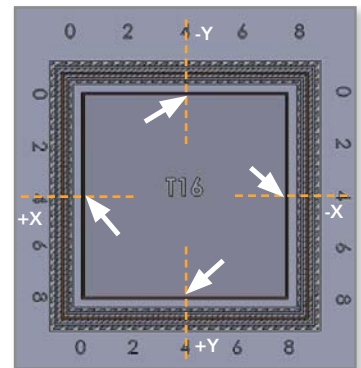

Figure 1: Measure at the center of each leg. (Step B.1)
1. Measure at the center of all 4 sides of the support layer box (figure 1).